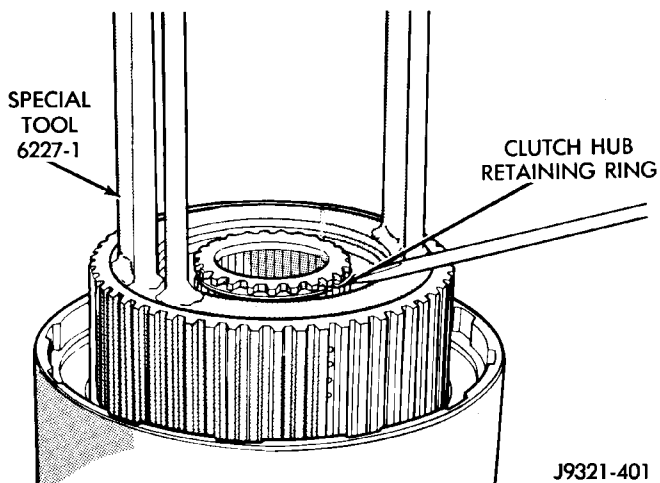

Fig. 238 Clutch Hub Retaining Ring Installation
(25) Install clutch hub retaining ring (Fig. 238). **Be very sure retaining ring is fully seated in sun gear ring groove.**
(26) Slowly release press ram, remove compressor tools and remove geartrain assembly.